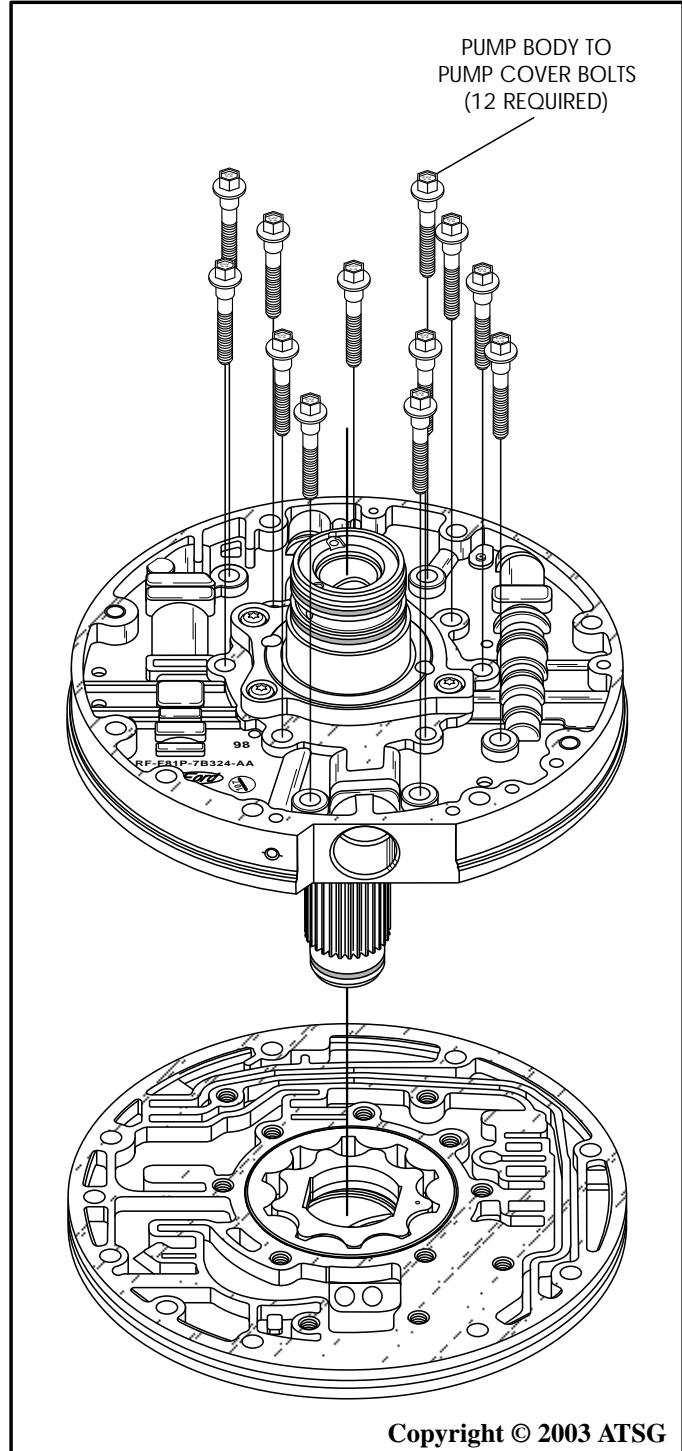

Figure 168
15. Set the completed oil pump body assembly, as shown in Figure 168, over a hole in the work bench so that stator shaft will pass through the hole (See Figure 168).
16. Install the completed oil pump cover assembly onto oil pump body, as shown in Figure 168.
17. Install the 12 pump body to pump cover bolts in the locations shown in Figure 168, and hand tighten only at this time.